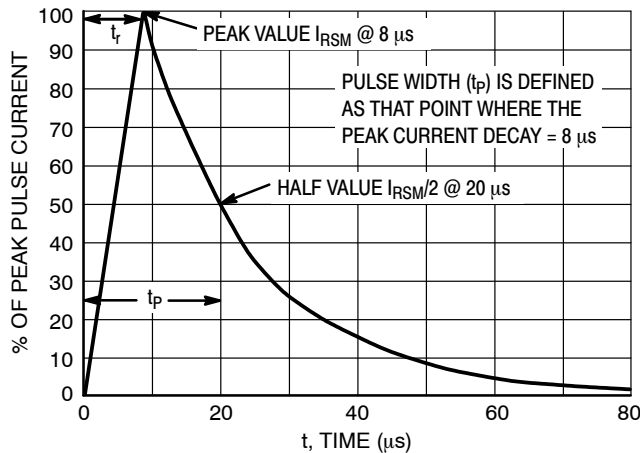

Figure 5. 8 X 20 μs Pulse Waveform
1. Non-repetitive current pulse per Figure 5 (Pin 5 to Pin 2)
- Non-repetitive current pulse per Figure 5 (Any I/O Pin to Ground)